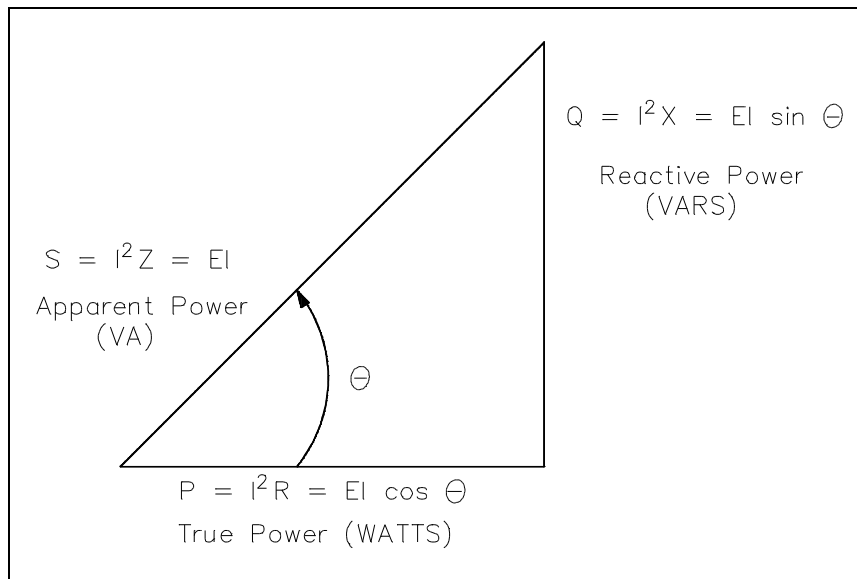

Figure 1 Power Triangle
| Figure 1  | Power Triangle . . . . .                | 2  |
In AC circuits, current and voltage are normally out of phase and, as a result, not all the power produced by the generator can be used to accomplish work. By the same token, power cannot be calculated in AC circuits in the same manner as in DC circuits. The power triangle, shown in Figure 1, equates AC power to DC power by showing the relationship between generator output (apparent power - S) in volt-amperes (VA), usable power (true power - P) in watts, and wasted or stored power (reactive power - Q) in volt-amperes-reactive (VAR). The phase angle ( $\theta$ ) represents the inefficiency of the AC circuit and corresponds to the total reactive impedance (Z) to the current flow in the circuit.
*Power factor* (pf) is the ratio between true power and apparent power. True power is the power consumed by an AC circuit, and reactive power is the power that is stored in an AC circuit.  $\cos\theta$  is called the power factor (pf) of an AC circuit. It is the ratio of true power to apparent power, where  $\theta$  is the phase angle between the applied voltage and current sine waves and also between P and S on a power triangle (Figure1). Equation (9-4) is a mathematical representation of power factor.